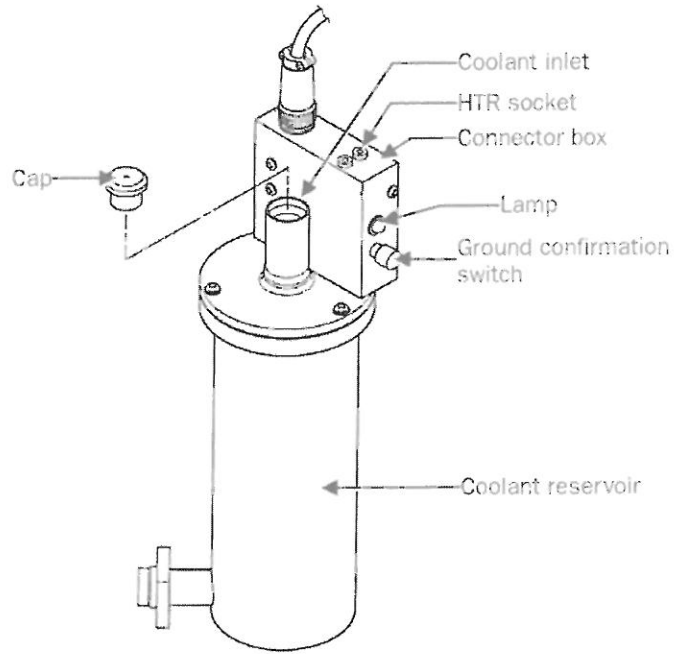

Fig. 5.67 Coolant reservoir
1. Confirm that the column pressure is below 0.1 Pa (10^{-3} Torr) and the ground indication lamp (Fig. 5.67) does not light when its switch is pressed.
- c. Insert the coolant evaporator into the reservoir and insert the evaporator plug into the HTR socket in the connector box (Fig. 5.67).